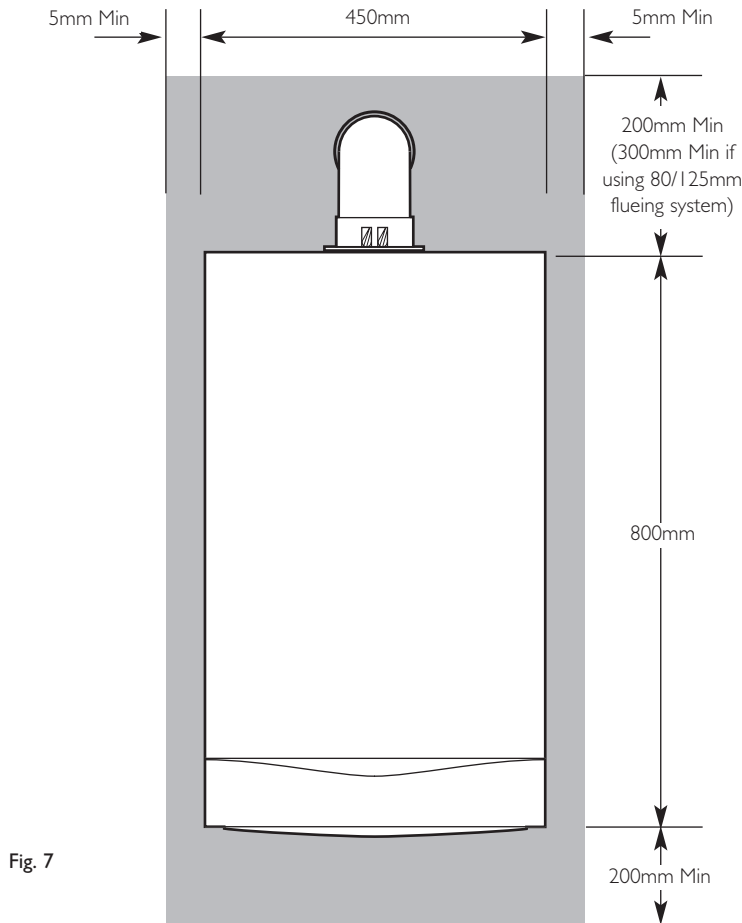

Fig. 7
6. Your boiler should have the following minimum clearances for Safety and Maintenance (Figs. 7 & 8):-